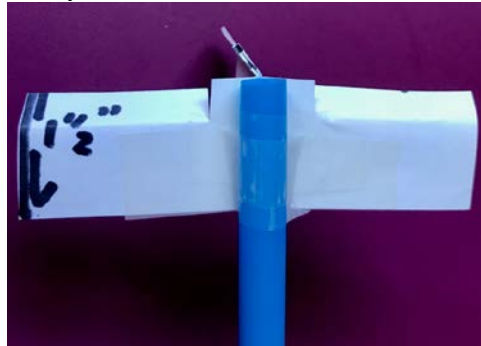

Figure 11. Tape the tail assembly to the back of the straw so the rudder sticks out
13. Firmly tape the tail assembly onto the end of the straw as shown in Figure 11.